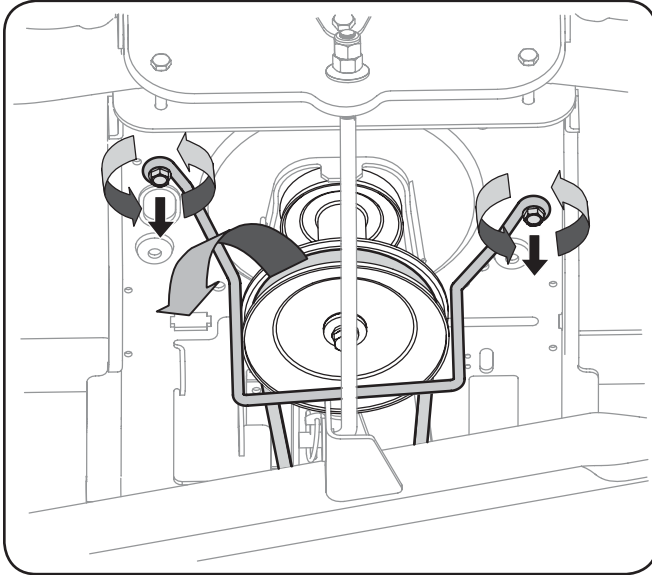

Figure 7-1
3. Locate the engine pulley (or electric PTO clutch if equipped) under the front of your tractor. See Fig. 7-1.
4. Remove the belt guard and belt as follows. Refer to Fig. 7-1:
11. Replace the belt guard. See Fig. 7-1.